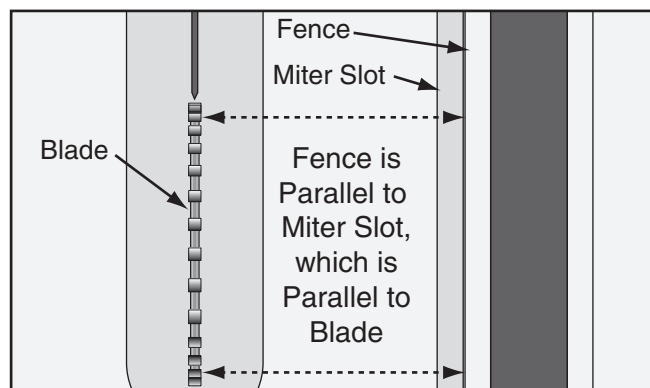

Figure 123. Checking fence parallelism with blade.
- Slide fence up against right hand edge of miter slot, lock it in place, then raise blade to its maximum height. Examine how fence lines up with miter slot and blade, as shown in **Figure 123**.
- If fence/miter slot are parallel with blade, as shown in **Figure 123**, no further adjustments need to be made.